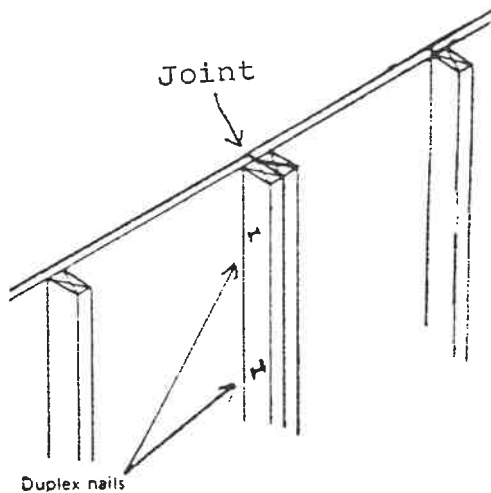

Figure 27
3. Working from the corners toward the center, set the next adjoining panel tightly against the one already standing. Make sure the form panels are flush and nail the end panel studs together with duplex nails at the joint as shown in Figure 27.